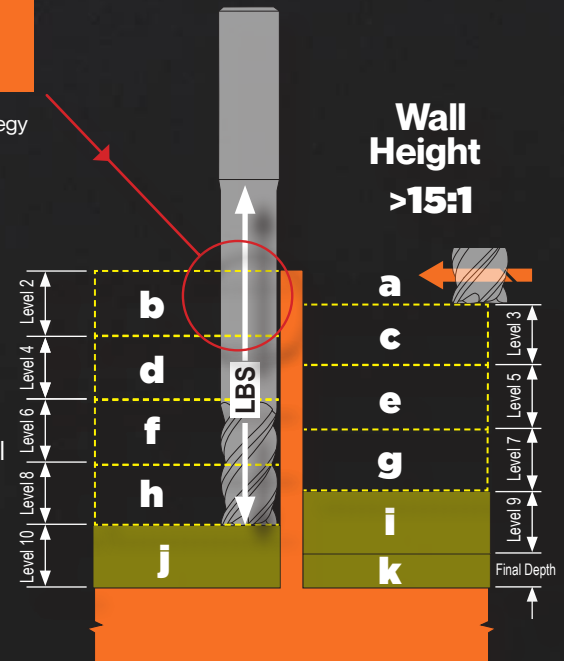

Fig. 6 - Material Removal Strategy  $> 15:1$
For walls  $>15:1$ , we suggest more of an alternating (i.e., overlapping) strategy, keeping some material behind the wall at all times (Fig. 6). Once again, we recommend starting with a stub or regular length tool and then using a reduced neck tool to remove the final "blocks or levels" that the first tool couldn't reach. As you machine each level leaping over the wall, make sure there is always some material bracing the next cut.
**TIP** | The "LBS" measurement (as shown in Fig. 6), which stands for "length below shank", is the maximum depth that the necked tool may be sent with-out making contact with the wall. This LBS measurement (L2) can be found throughout this catalog. **LBS = Maximum Tool Reach**